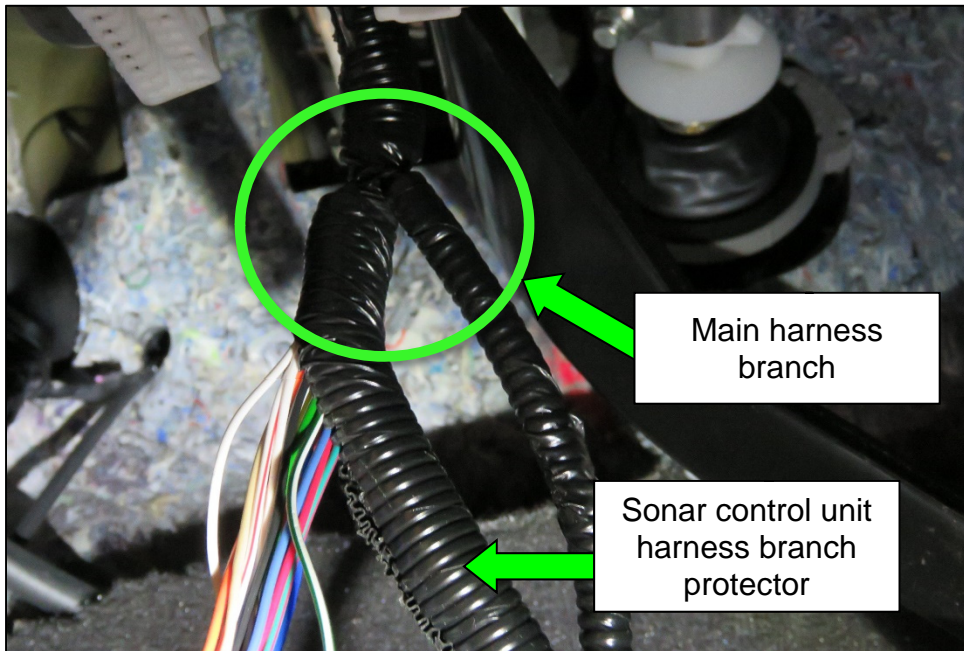

Figure 5
4. With the two (2) harness branches separated, carefully remove the vinyl tape that bundles the Sonar Control Unit harness together.
5. Carefully pull back approximately 100 mm (4 inches) of the outer Sonar Control Unit harness branch protector (Figure 5).